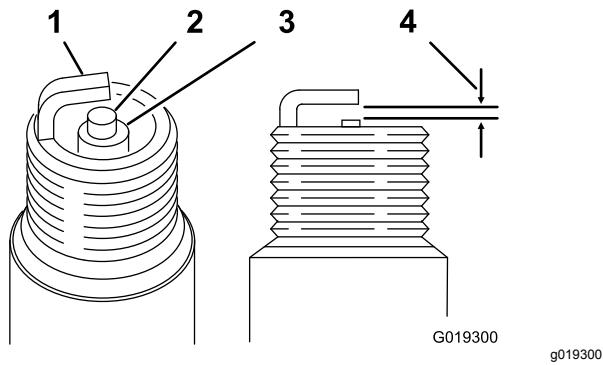

Figure 32
Air Gap: 0.70 to 0.80 mm (0.028 to 0.031 inch); refer to Figure 32
4. Set the air gap to 0.70 to 0.80 mm (0.028 to 0.031 inch) as shown in Figure 32.